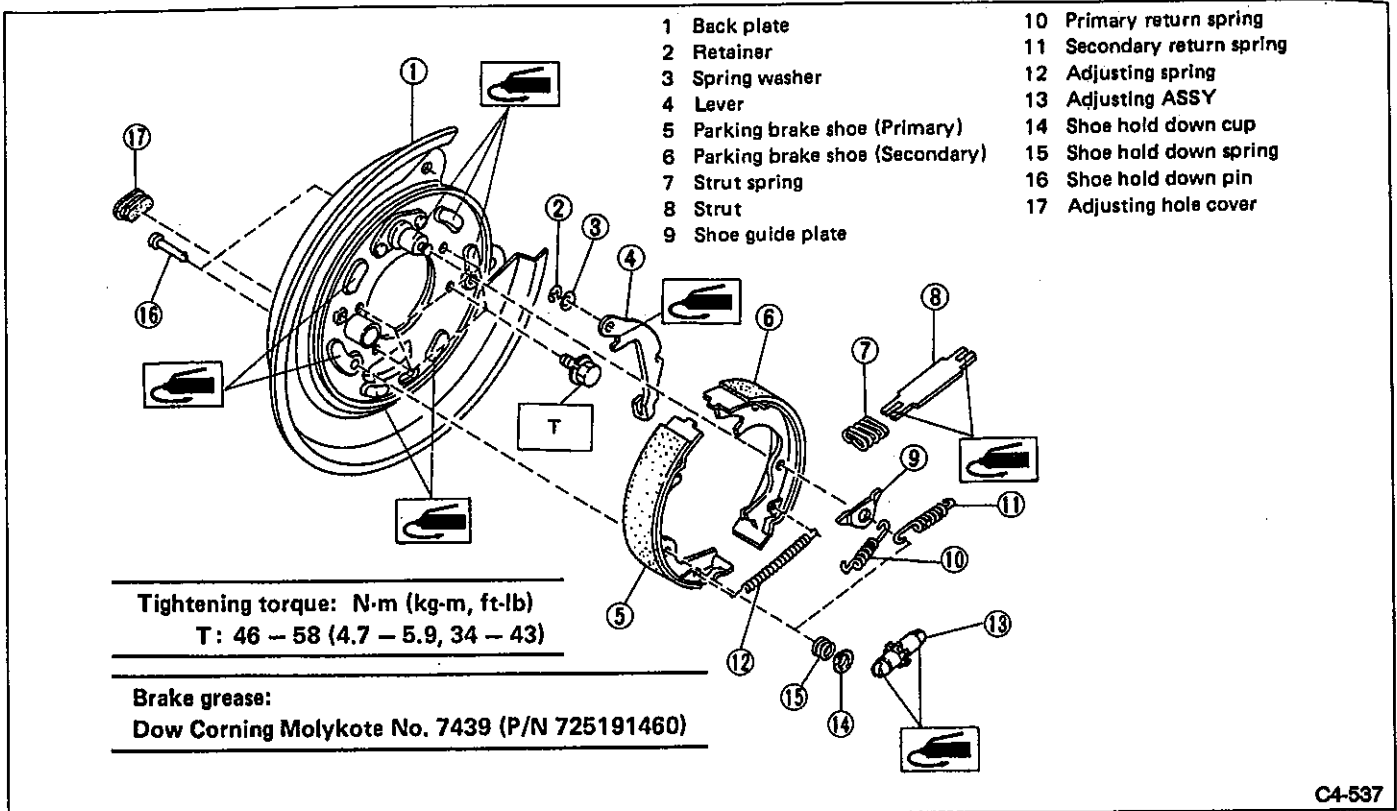

Fig. 118
1) Apply brake grease to the following places. (Refer to Figure 118.)